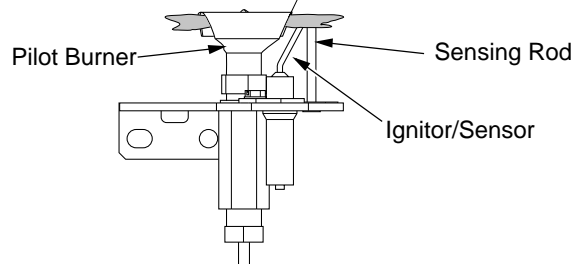

Figure 36 - Correct Pilot Flame Pattern
- Turn the adjustment screw marked PILOT clockwise to decrease or counterclockwise to increase the flame to proper size (see Figure 36). Do not remove the adjustment screw.